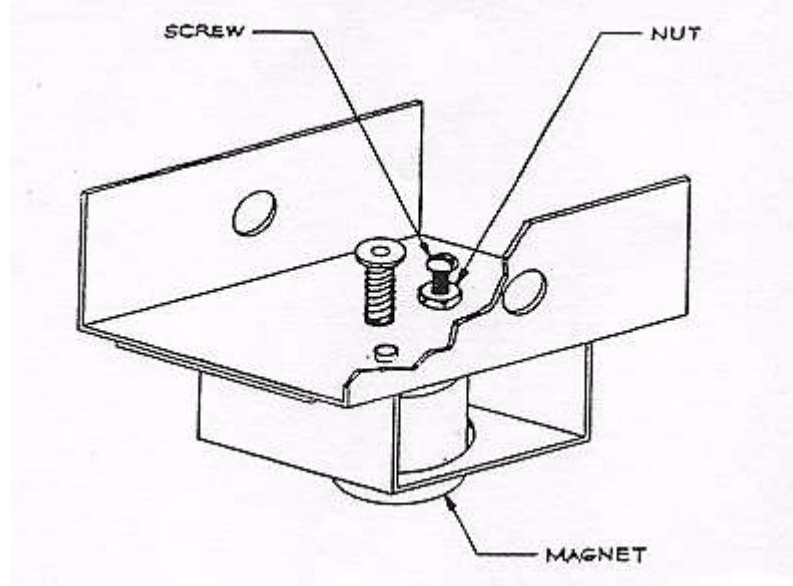
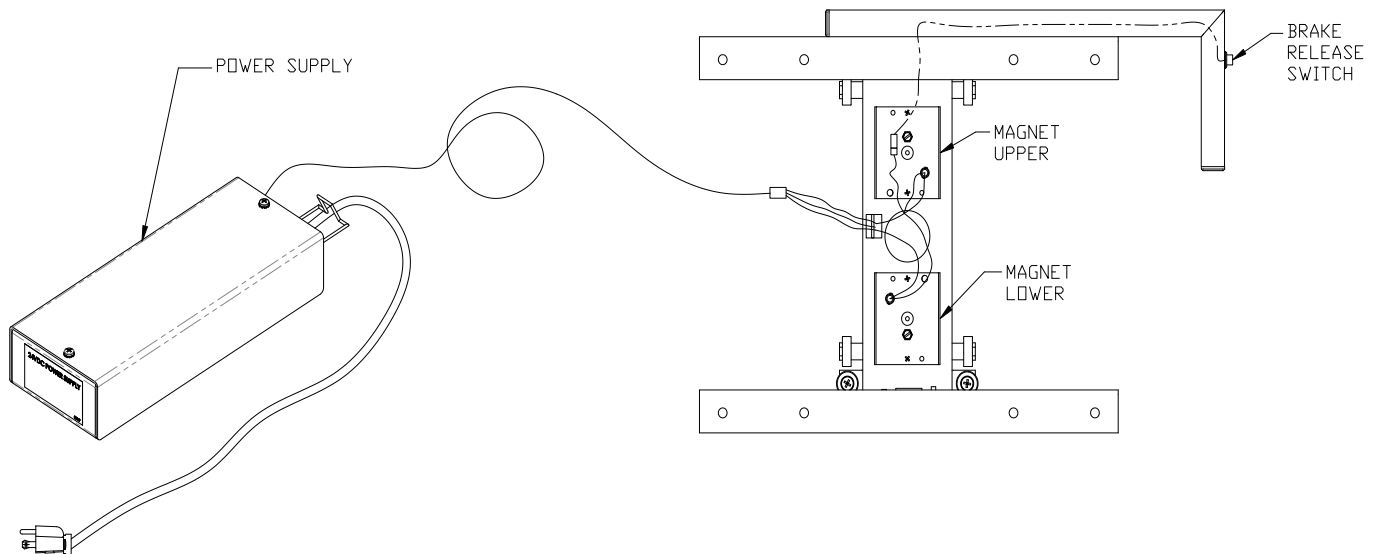
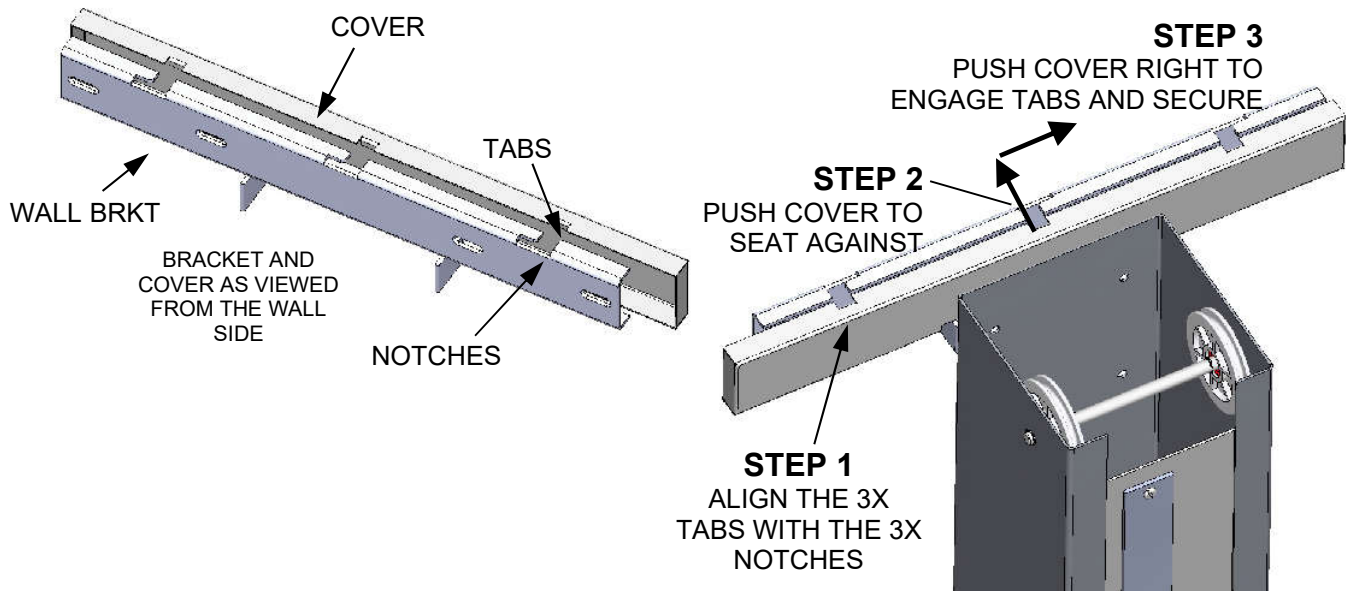

Figure 3: Electric Brake Adjustment
Figure 4: Electrical Connections
Figure 7: Installing the Wall Bracket Cover
- Mount the handle assembly (6) to upper mounting channel (5b), routing the switch cable through the center hole. Connect switch cable to lock assembly (7). Select orientation to place the switch on the appropriate side for ease of use (See figures 4 and 5).
- Install locks to slide (7).
- Route the incoming power cable through the opening at the center of the lower film cabinet mounting channel (5a) and connect to the lock assembly (7). Provide power to the locks, test and adjust (See Figures 3, 4, and 5).
- Mount the magnet cover assemblies (9) (one per side) to the lock brackets (7) with the zip tie base facing inward. Before doing so, on one side zip tie the incoming lock power cable to the provided base for strain relief.
- Mount the film cabinet (10).
- Install the wall bracket cover (see figure 7, p.13).